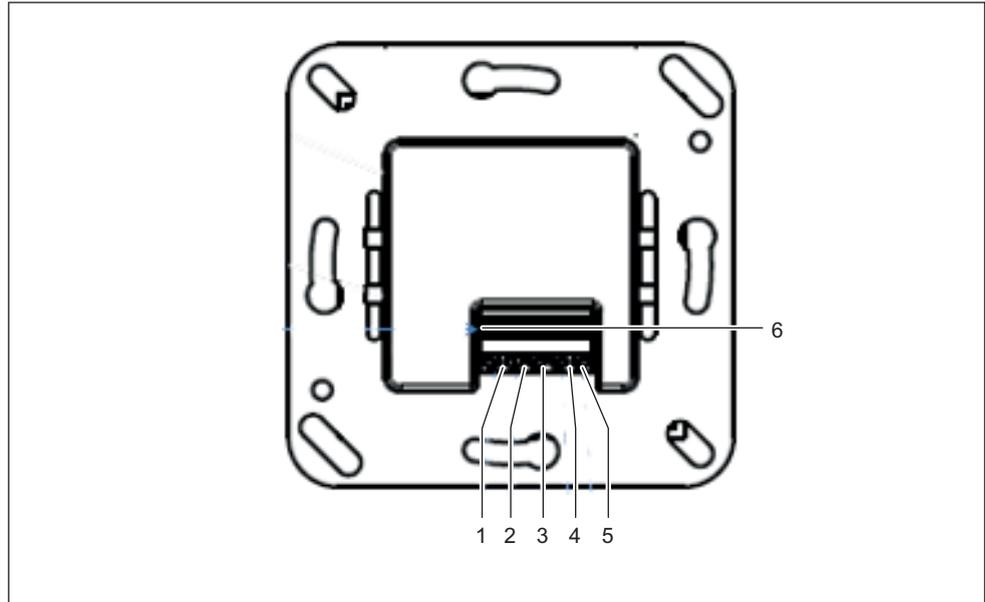

Fig. 10: Connections WRU 220 reader
2. Connect the connection leads to the clips of the reader (See Fig. 10: Connections WRU 220 reader on page 35).
5. Connect the connection leads to the clips of the reader (See Fig. 10: Connections WRU 220 reader on page 35).